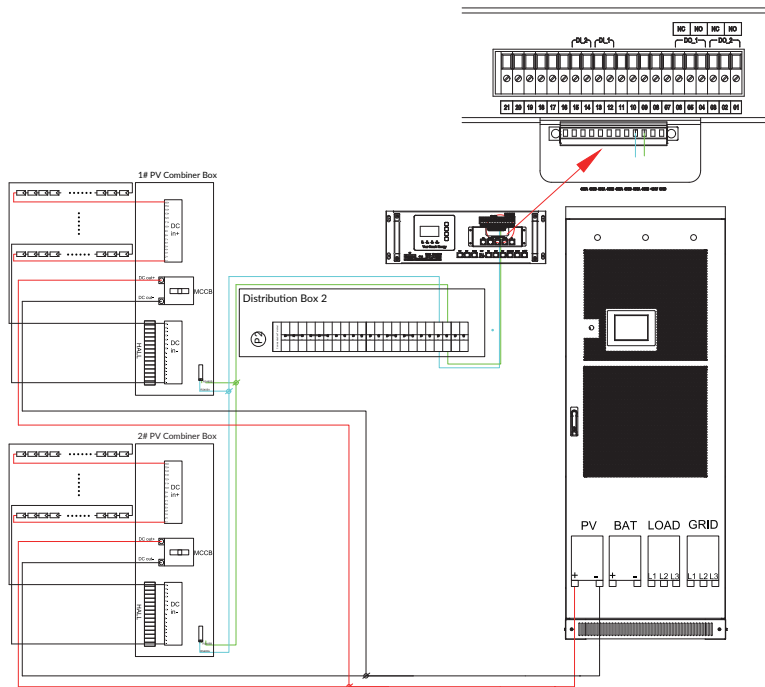

Figure 4-22 Connect the power cable of the PV , With Combiner box
The PV connection is shown in Figure 4-22
- C. Connect the power cable of the PV Combiner box to the PV side of the PCS, as shown in Figure 4-22.
- D. Connect the RS485 communication cable of the PV combiner box to the RS485 interface of the TOP BMU, as shown in Figure 4-22.